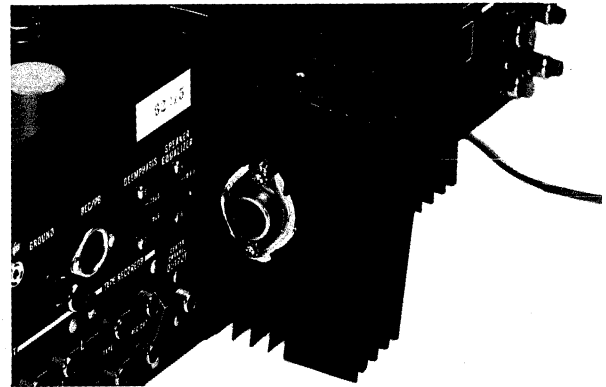

Fig. 2-16 Power transistor removal
4. Carefully draw back the heat sink, see Fig. 2-16 and then remove the two screws ($\text{Ø} B 3 \times 14$), ($\text{Ø} B 3 \times 16$) and plate nut securing the power transistor and power transistor socket to the heat sink.